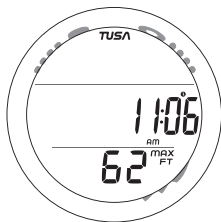

Fig. 114 - FREE ALT 2
**Free Dive ALT 2**, information includes (Fig. 114) -